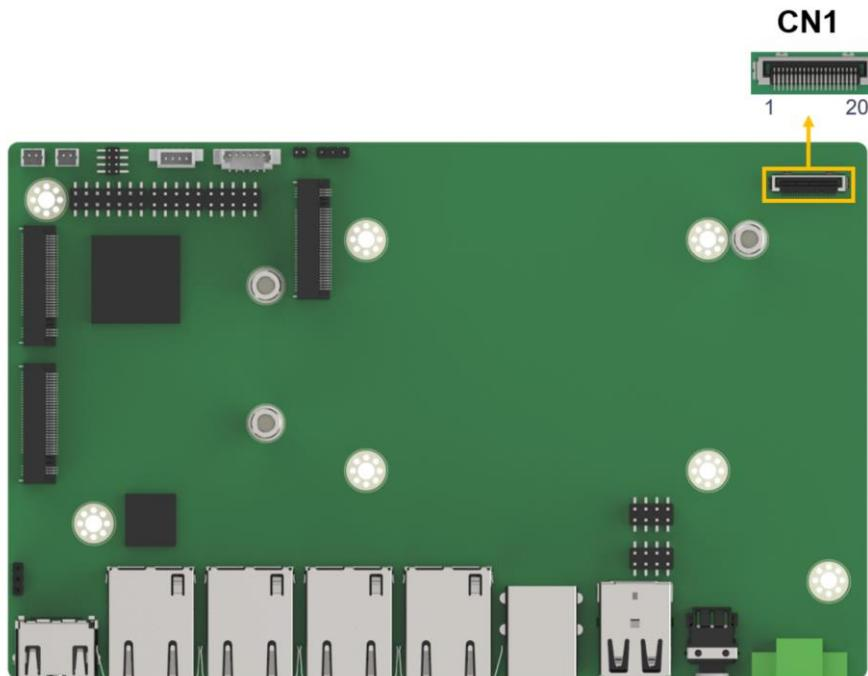

Figure 4-9: Mini SATA Connectors Location
- CN Location:** See **Figure 4-9**